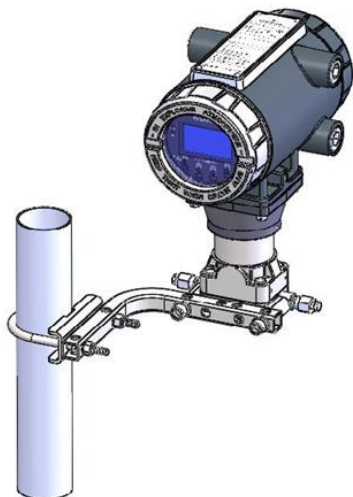

Figure 6. FB1200 using Coplanar Mount
2. The FB1200 mounts either directly to a manifold on the pipeline or indirectly on a two-inch pipe or pole. See Figures 6 and 7.